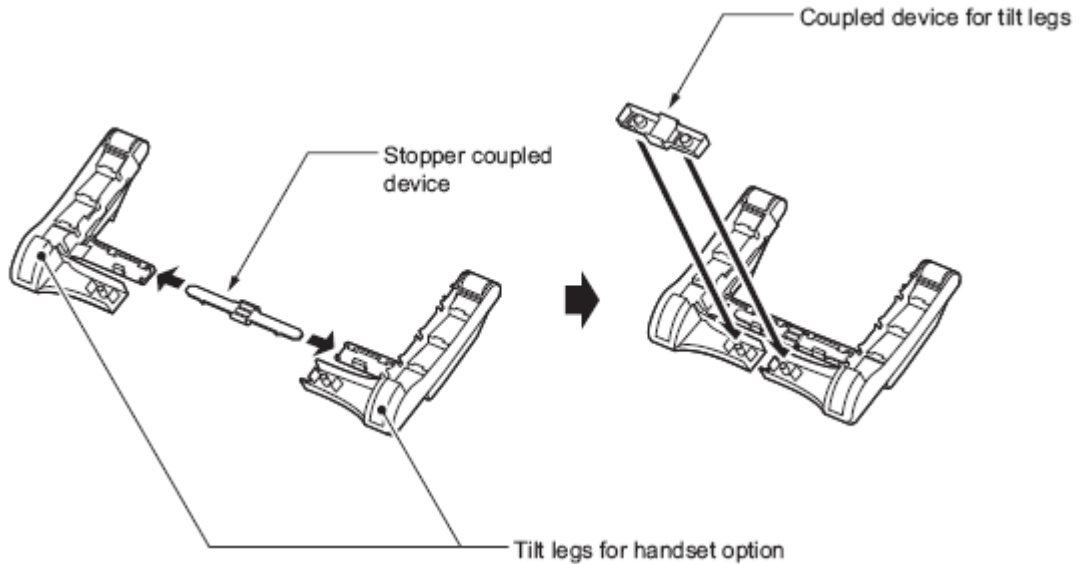

Figure 5-141 Insert Stopper for Handset Use
19. Insert the stopper coupled device into the right and left tilt legs (see Figure 5-141 Insert Stopper for Handset Use).